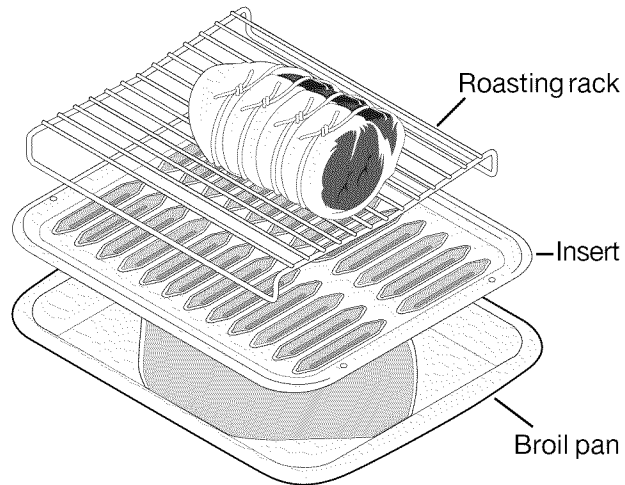

Fig. 1
4. Position food (fat side up) on the roasting rack. *-Fig. 1-*